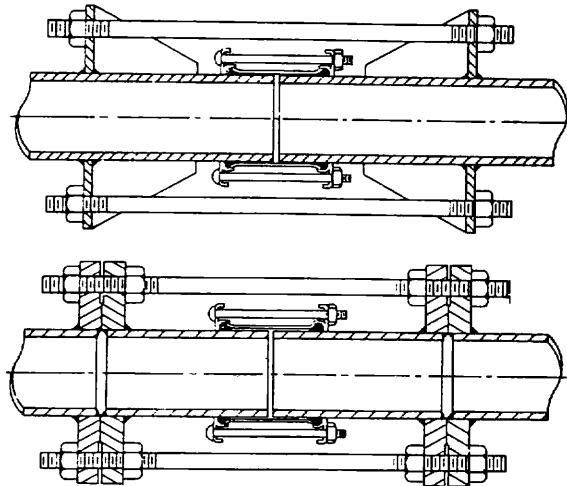

FIG. 27 - SUGGESTED HARNESS DESIGNS FOR FLEXIBLE COUPLING JOINTS
- (d) If a flexible connection such as a Dresser coupling is to be used, a joint harness such as shown in Fig. 27 should be installed across this connection. The tie bolts for such a harness should be designed so that they do not elongate more than 0.005" when restraining the hydraulic force which tries to separate the joint. This force is equal to the discharge pressure in psi times the cross sectional area of the bore of the pipe in square inches. The tie bolts should be snugged up carefully by applying approximately the same amount of torque to each bolt, otherwise, the purpose of the coupling will be defeated.